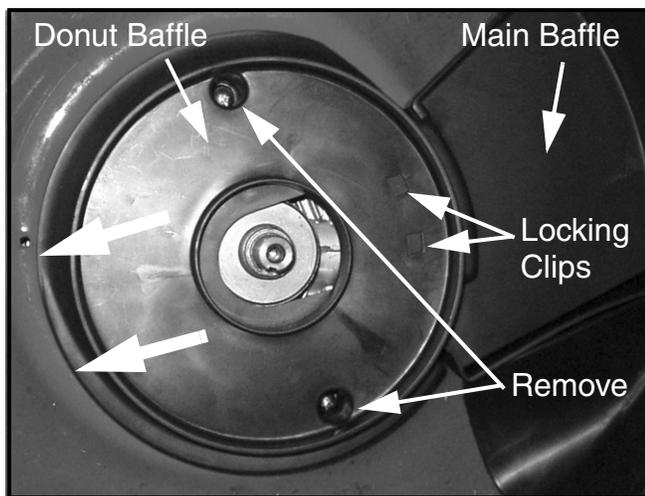

FIGURE 11
22. If so equipped, remove the two screws securing the donut baffle to the deck. Then lift the donut baffle up and slide forward away from the main baffle to unhook the two donut baffle locking clips from the main baffle. See Figure 11. Mounting hardware varies dependent on model and year.
38. Re-install the donut baffle using the hardware removed in Step 22. See Figure 11.